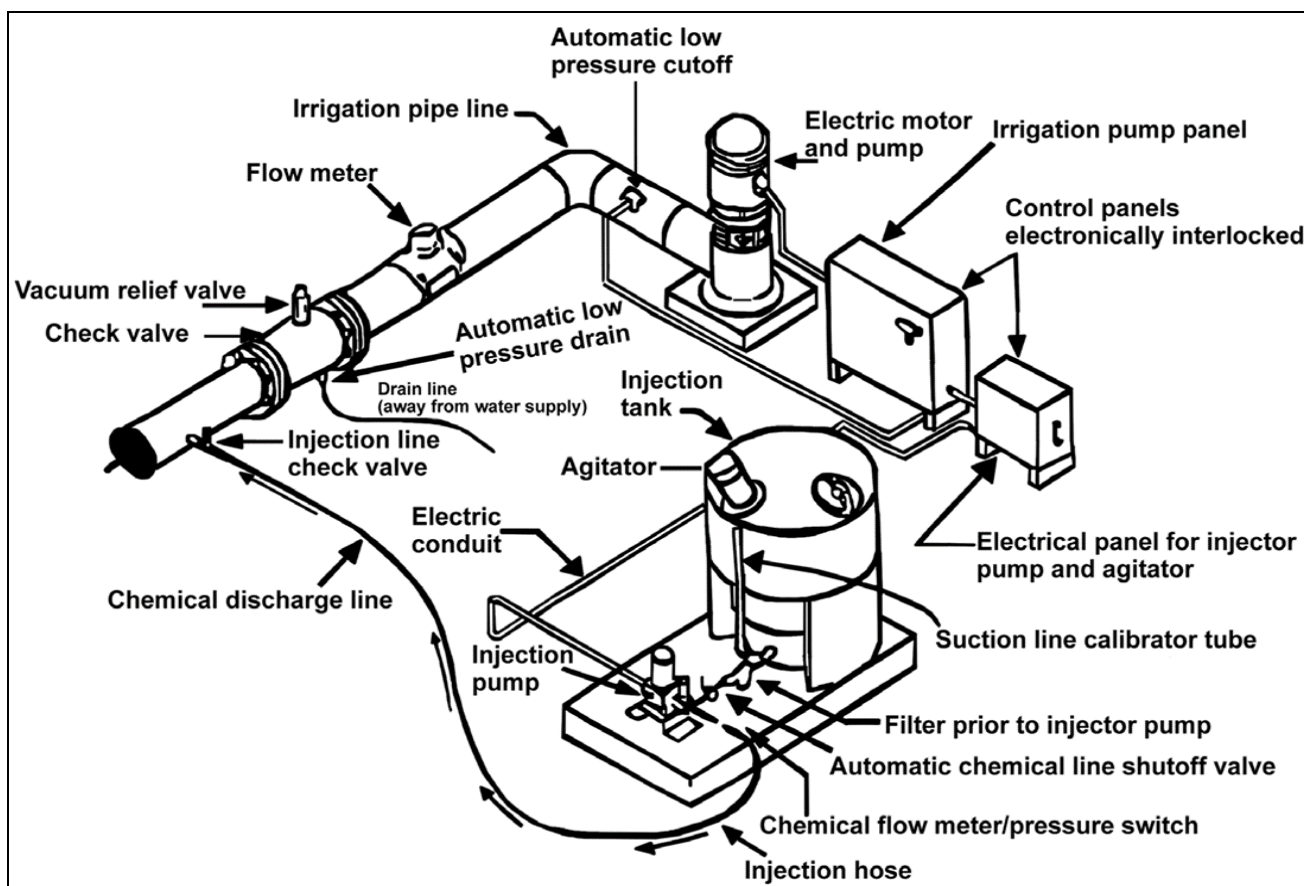

Figure 1: Atypical electrically driven chemigation (fertigation) system
Water-soluble fertilizers tend to accumulate in the bottom of stock tanks, which can result in large differences in fertilizer concentrations. If you are using a large stock tank, make sure the stock solution is mixed well before using it. A good solution is to have a mixing tank equipped with an *agitator*, where you would dissolve the concentrated fertilizer solution (Figure 1).
The irrigation pumping plant and the chemical injection pump should be interlocked so, if the irrigation pumping plant were to stop, the chemical injection pump will also stop. This will prevent chemicals from the supply tank from filling irrigation lines should the irrigation pump stop. With internal combustion engines, the chemical injection pump can be belted to the drive shaft or an accessory engine pulley. Injection pumps driven by electric motors require a separate one-third or one-half horsepower electric motor for the chemical injection pump. Controls for the motors should be electrically interlocked to stop the injection pump motor whenever the irrigation pump stops. This is shown in Figure 1 for electric motors.
**Check and vacuum relief valves** (anti-siphon devices) are necessary safety devices. They prevent water or mixtures of water and chemicals from draining or siphoning back into the water source. Both valves must be located between the irrigation pump discharge and the point where chemicals are injected into the irrigation pipeline (Figure 1).
**Vacuum relief valve.** The vacuum relief valve must be located on top of the irrigation pipeline between the irrigation pump and the irrigation pipeline check valve (figure 1) to prevent a vacuum that could cause siphoning when the water flow stops.